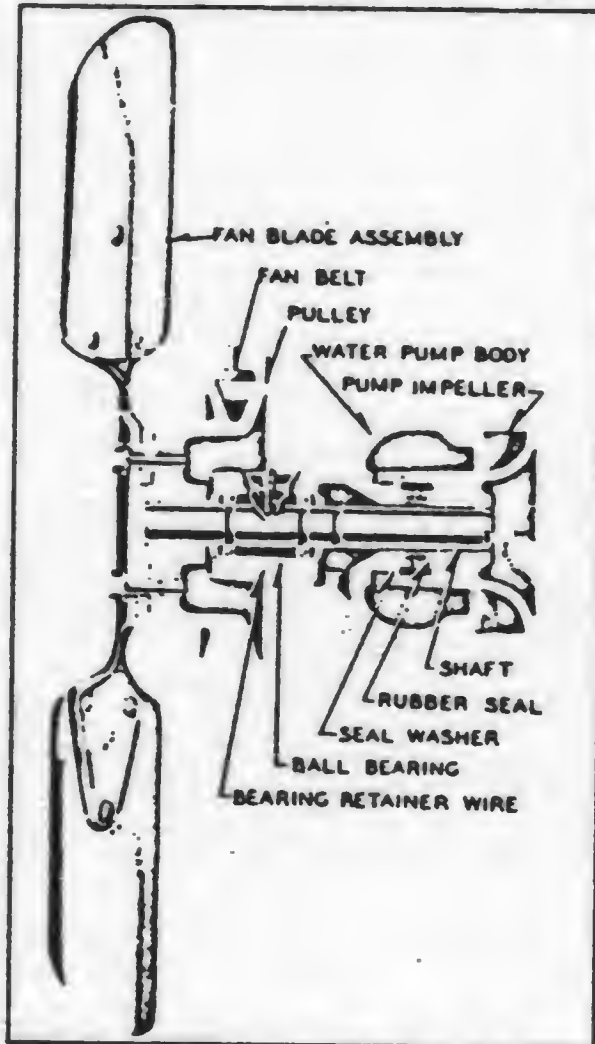

FIG. 34 FAN AND WATER PUMP ASSEMBLY
(1) *Description.*—The fan and water pump, (Fig. 34), are mounted on the same shaft. The pump is of the centrifugal type and circulates the water in the cooling system.